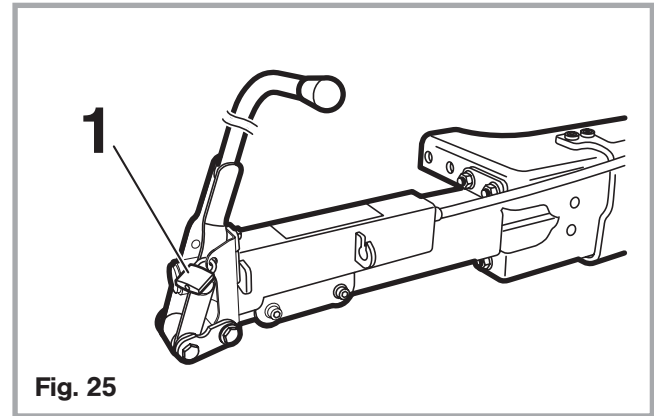

Fig. 25
To secure the trailer coupling against unauthorised opening fit a pad lock (1) in the boring of the master cylinder as shown in fig. 25.